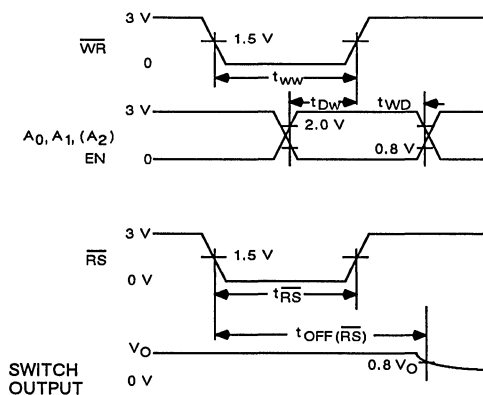

Figure 8. Timing Diagrams
1. First, the most critical specification of the device is its microprocessor timing arrangements. As was mentioned earlier, the timing of these devices was designed to be compatible with the 8085A. In actual fact the timing is such that the 8085A-2 can be operated on its maximum 5 MHz clock rate. The waveforms shown in Figure 8 illustrate the timing specifications for the DG52X series.